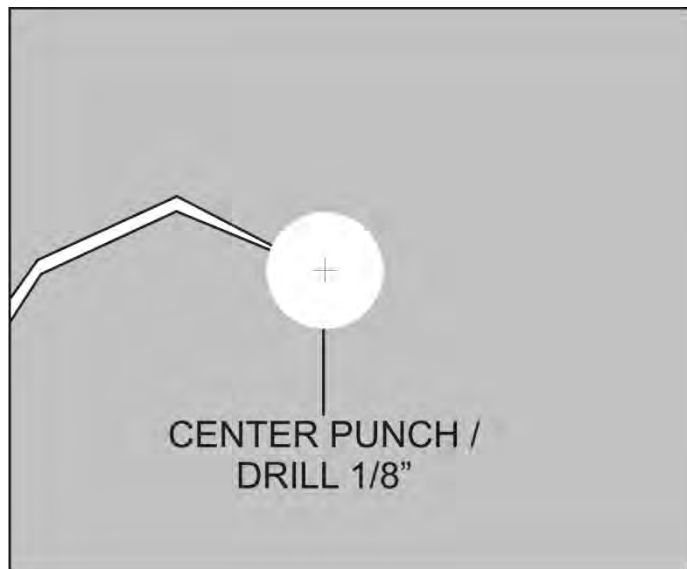

Figure 11: Crack, less than 1/4"
21. Cut the wall at the dimensions shown, using the existing cutouts to align and locate the cutting lines. (Figure 11)